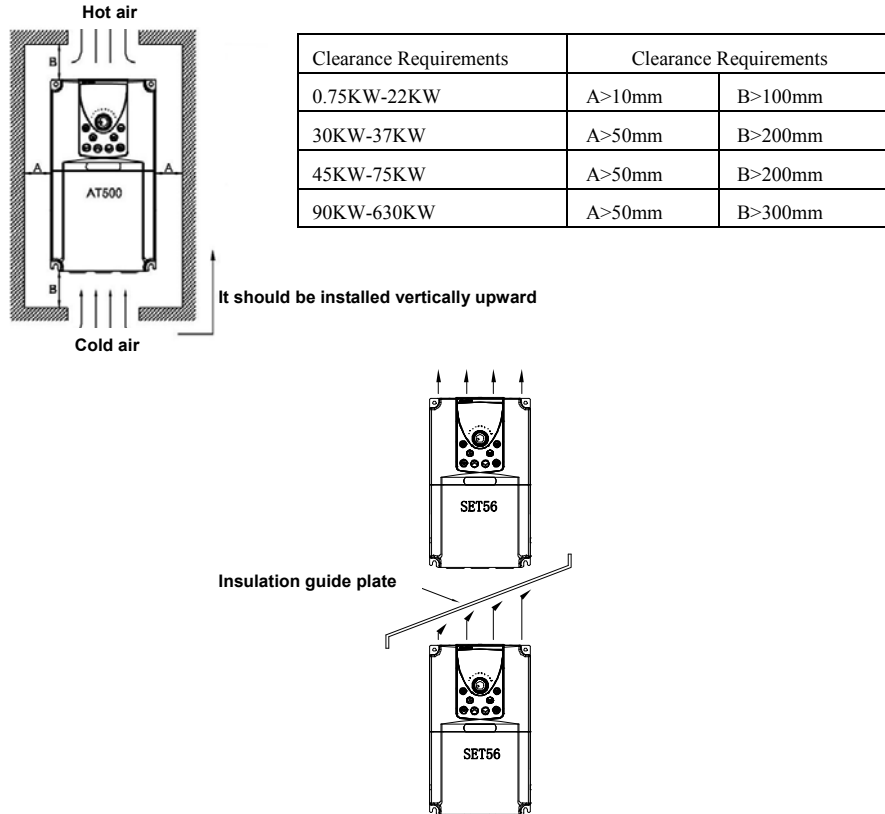

Figure 3.1 SET560 inverter installation diagram
- 1) The inverter should be installed vertically but not inverted for heat distribution. Side by side installing is highly considered for many inverters install in one cabinet. The heat guide plate should be set in vertical install situation, like Figure 3.1.
- 2) The installation space should follow Figure3.1 to ensure radiation space. But other parts heat dissipation should be considered when layout.